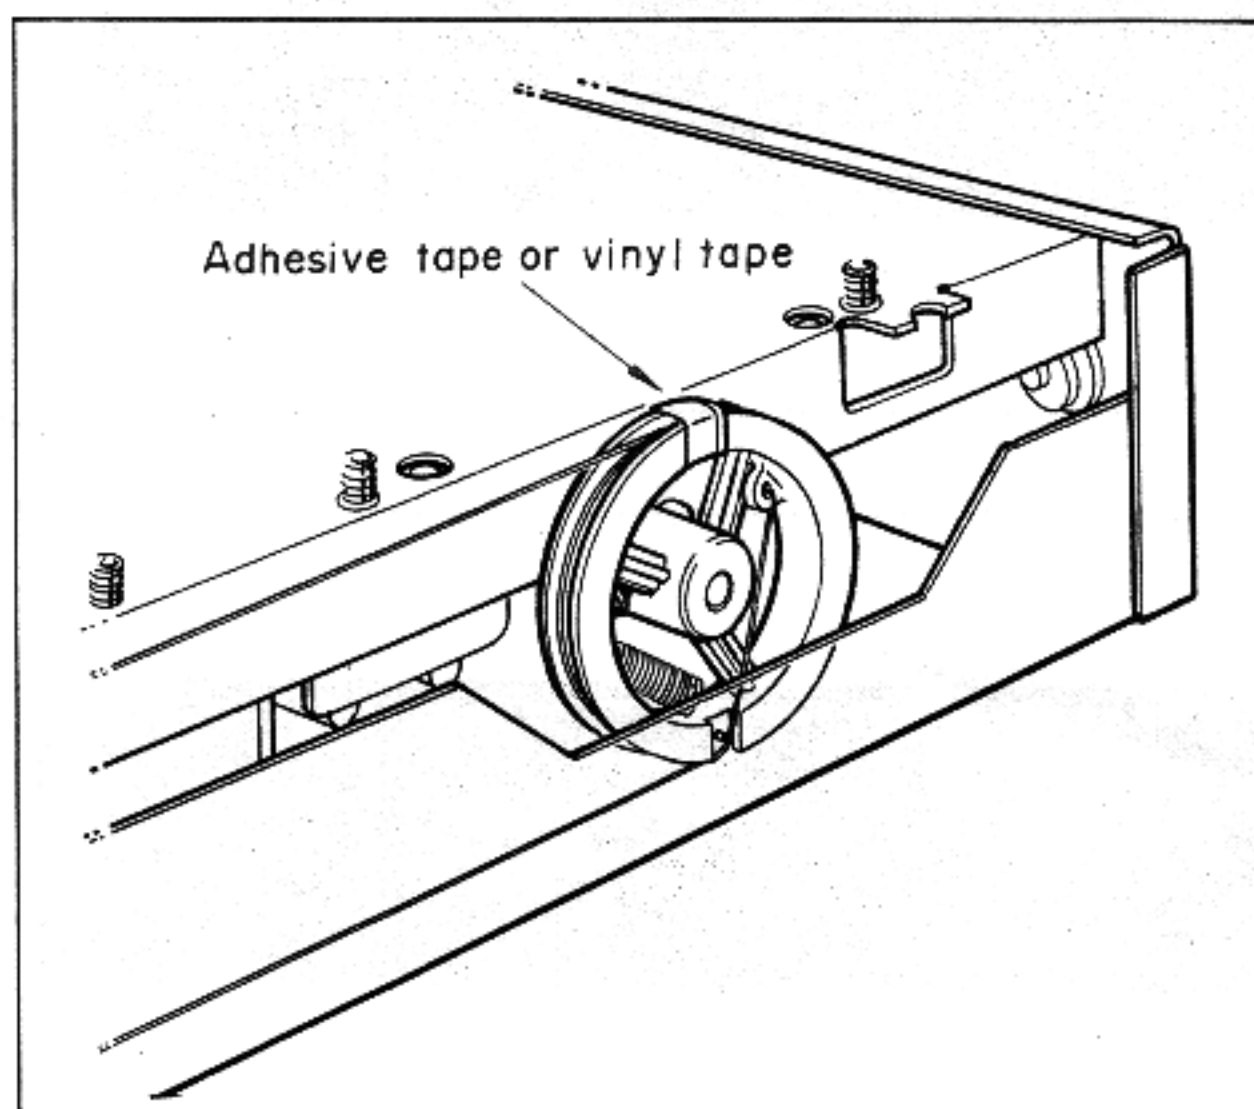

Fig. 1
3. Tuner printed circuit board (1) removal
- b. Pull out connectors #4 and #5 in Photo 2 which are connected to the tuner printed circuit board (1).
- c. Remove screws (1) and (2) in Photo 3 (M3 x 6 bind head screws), and then remove the power switch along with the fitting.
- d. Remove screws (11) to (16) in Photo 2 (M3 x 6 bind head screws), and then remove the tuner printed circuit board (1).
- c. Loosen screws (17) and (18) of the variable capacitor pulley in Photo 2 and then pull out the pulley from the variable capacitor shaft. You will find that if you wind adhesive tape or vinyl tape to secure the dial string to the pulley so that the string does not get tangled up (see Fig. 1), the replacement operation will be facilitated.
- d. Remove screws (A) to (C) in Photo 2, and then remove the RF front end pack.